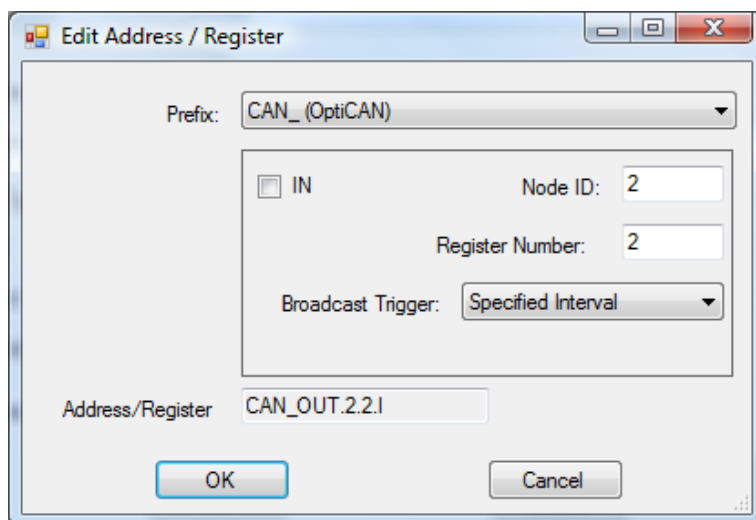

Figure 2-16 - Edit Address / Register Dialog
5. Click the **EDIT** button to the right of the *Address/Register* box. This will open the Edit Address / Register dialog box. Refer to figure 2-16.